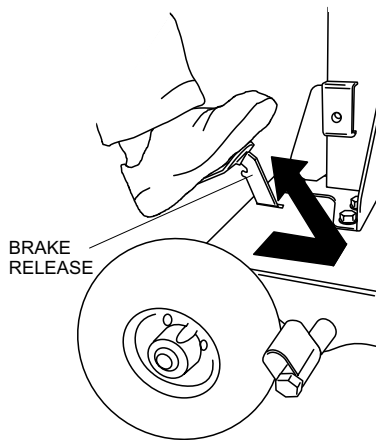

Figure 13. Releasing Brake
1. Step on the brake pedal, hold then release. See Figure 13. This will disengage the braking mechanism and will allow the GBC to be moved.